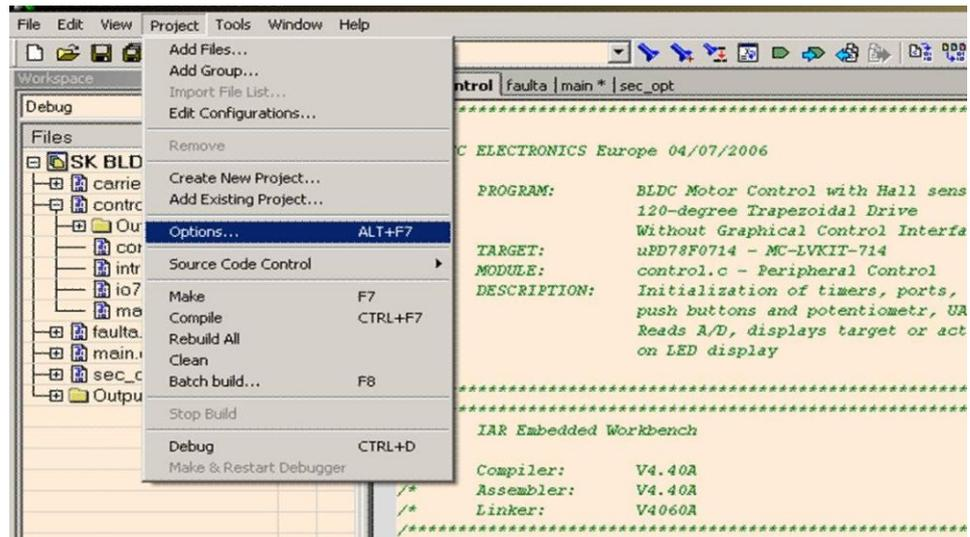
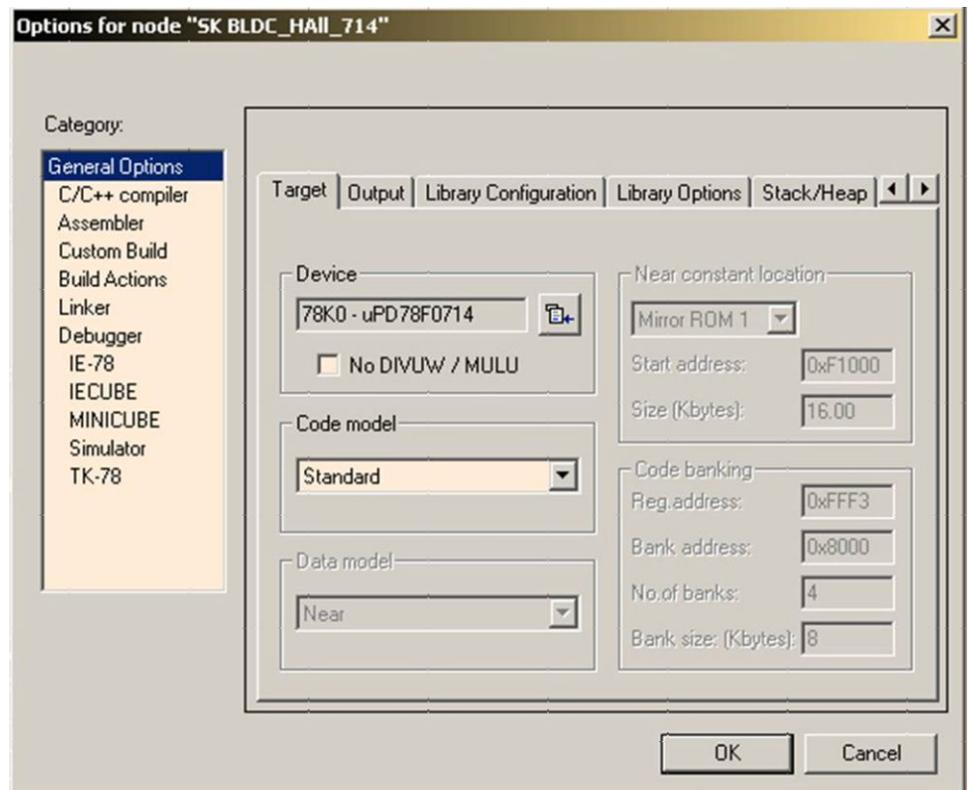
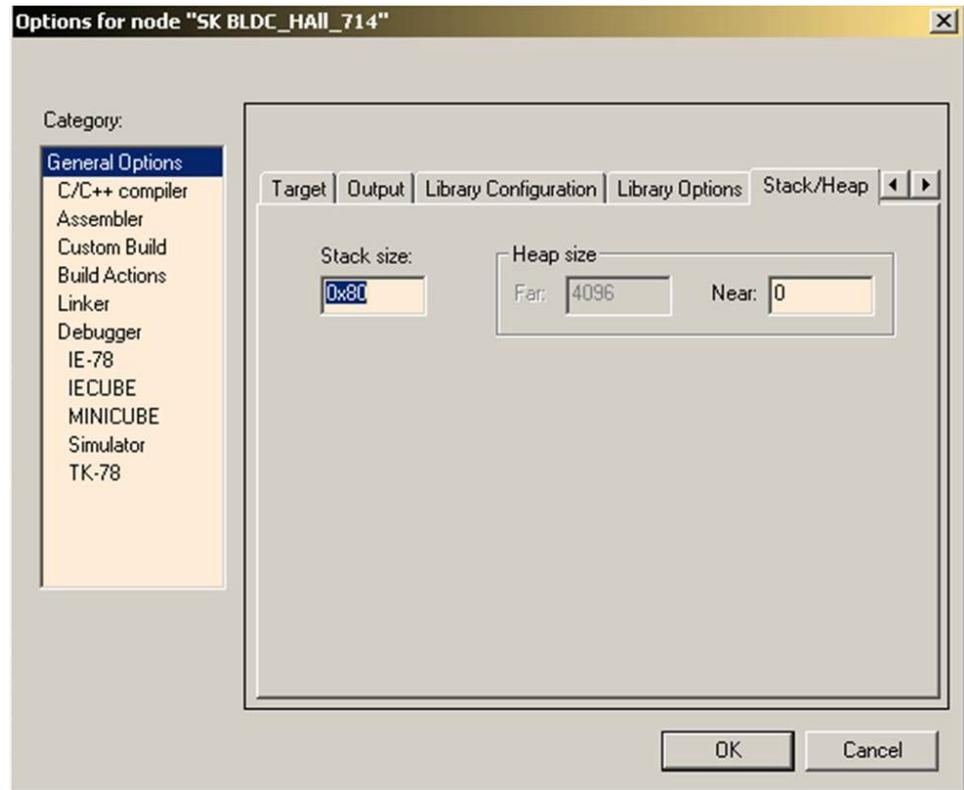

Figure 8-7 Project build options
Figure 8-8 General Options – Setting the Target Device
Figure 8-11 General Options – Setting the Stack and Heap
3. The build options for the project can then be set or changed using the following menus. The build options are entered as shown in *Figure 8-7* below, then ensure all the options are as shown in *Figure 8-8* to *Figure 8-11* below.